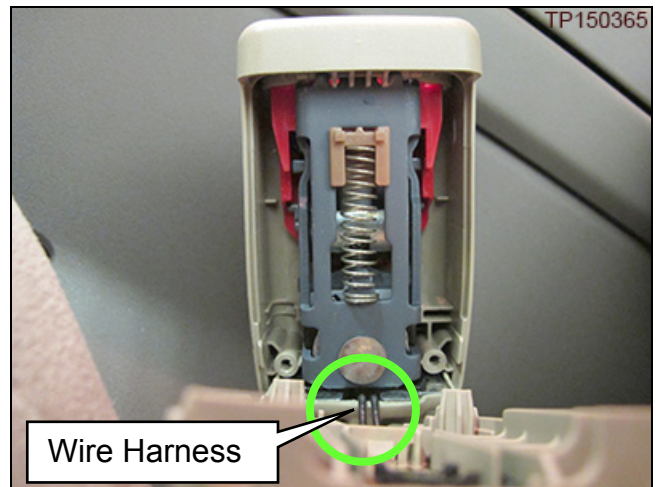

Figure 4
**IMPORTANT:** Only pull away far enough to allow the buckle cover to slide down, to prevent damage to the wires connected to the buckle cover (see Figure 4).
**IMPORTANT:** Take care to not damage the wire harness at the bottom of the seat belt buckle cover shown in Figure 4.